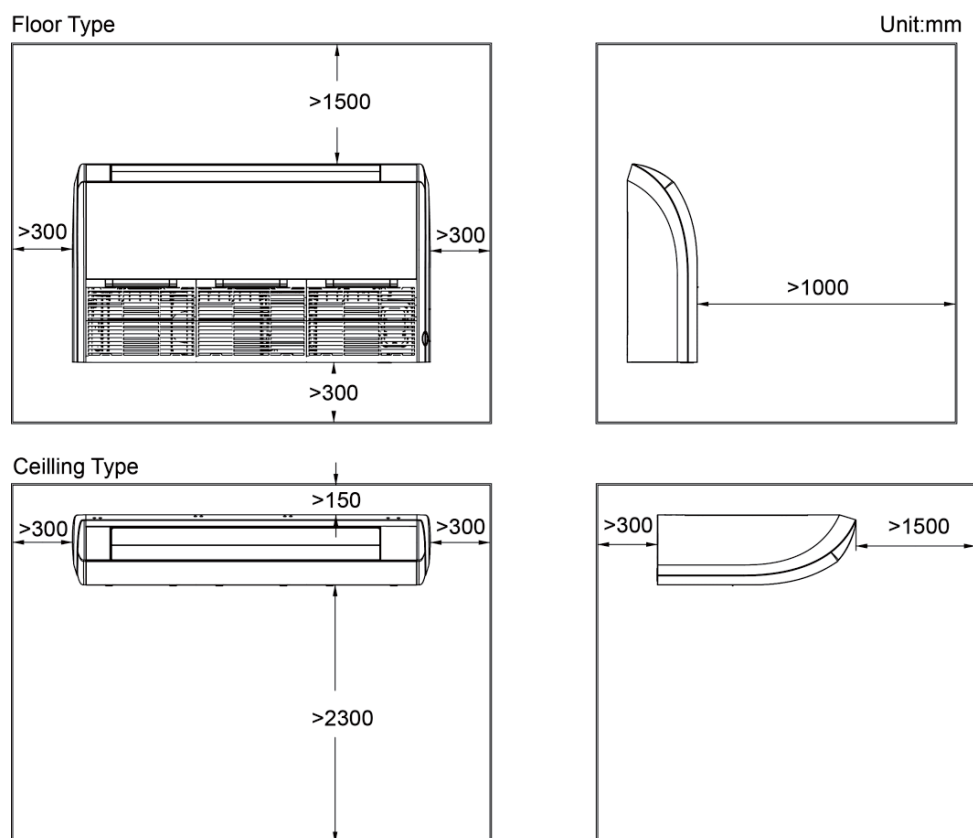

Figure 3-1-49
- (1) Install the unit at a place where is strong enough to withstand the weight of the unit.
- (2) The air inlet and outlet of the unit should never be clogged so that the airflow can reach every corner of the room.
- (3) Leave service space around the unit as required in Figure 3-1-49.